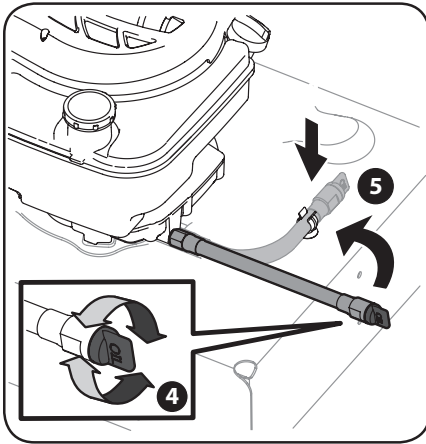

Figure 4-5
- After the oil has finished draining, screw the cap back onto the end of the oil drain hose. See Figure 4-5.